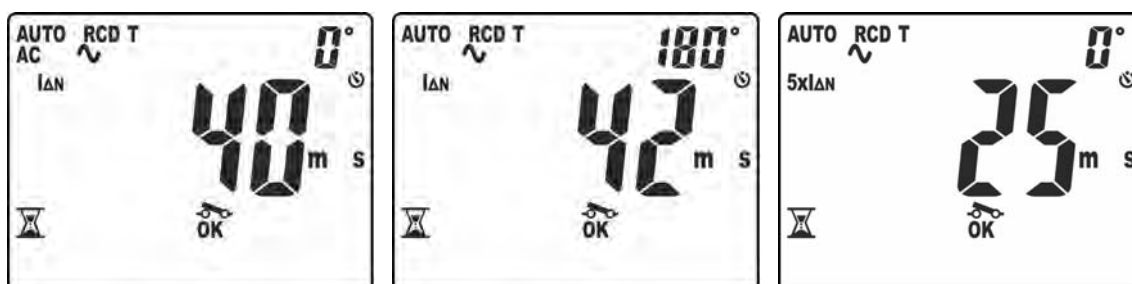

Fig. 32: Tripping time in AUTO mode – Screen 1
10. The first test carried out is the one with test current  $I_{\Delta n}$  and polarity  $0^\circ$ . The result of partial measurement is shown on the display with indication “OK” or “NOT OK” (see Fig. 32 – left side). Symbol “” flashing indicates that the RCD must be reset.
11. The second test carried out is the one with test current  $I_{\Delta n}$  and polarity  $180^\circ$ . The result of partial measurement is shown on the display with indication “OK” or “NOT OK” (see Fig. 32 – middle). Symbol “” flashing indicates that the RCD must be reset.
12. The third test carried out is the one with test current  $5xI_{\Delta n}$  and polarity  $0^\circ$ . The result of partial measurement is shown on the display with indication “OK” or “NOT OK” (see Fig. 32 – right side). Symbol “” flashing indicates that the RCD must be reset.